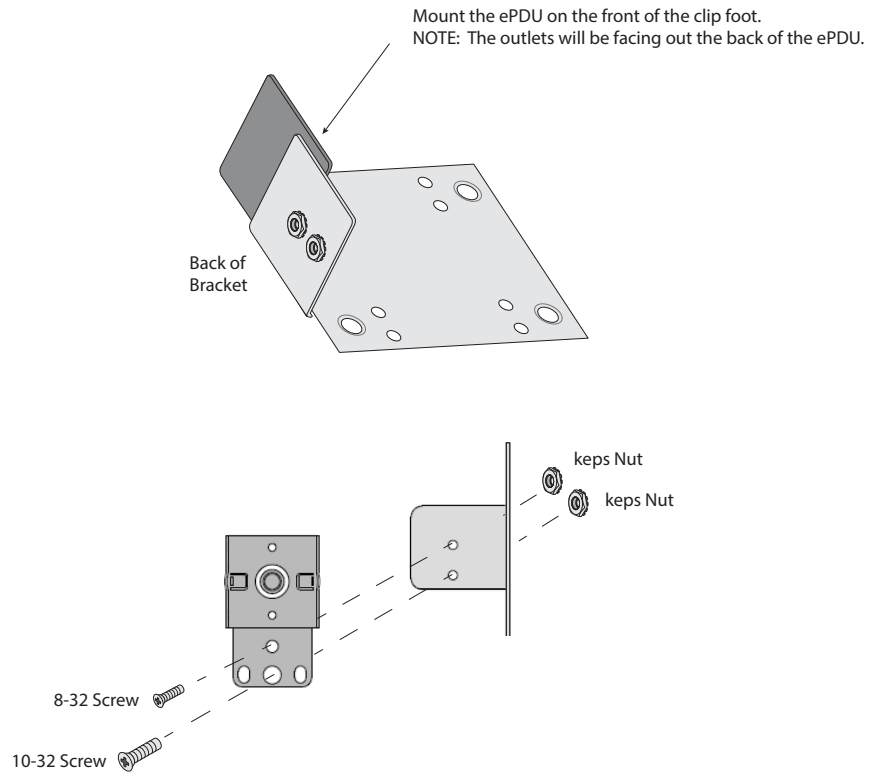

Figure 26. Single Rearward
- **One ePDU rearward.** Outlets facing out the back of the rack, go to Figure 26 on page 38.